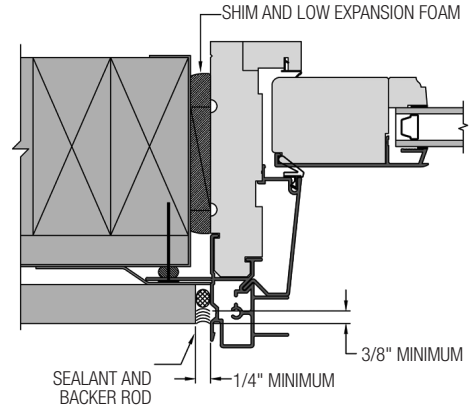
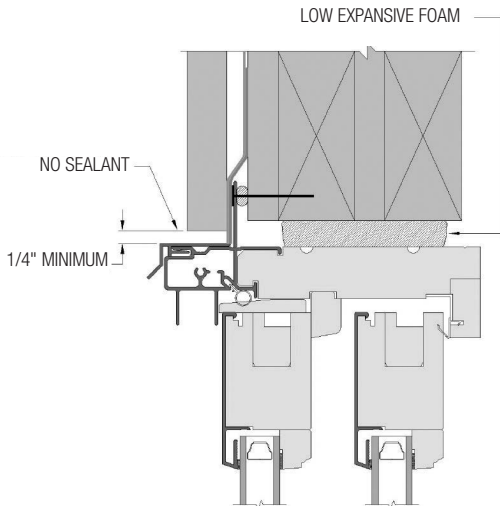

FIG. 23: SIDE JAMB
FIG. 24: SLIDING HEAD JAMB
- A) After siding or wall exterior is complete, apply backer rod and sealant between the door frame and siding material on both sides. Sealant bead must extend to back of accessory groove (3/8" Min.) (Fig. 23) **Do not add sealant at the head.** (Fig. 24 & 25)
- D) Insulate between the door frame and the rough opening using minimally expanding window and door spray foam insulation. Use caution to not overfill the gap, causing the jambs to bow. It is not recommended to apply trim to the unit until the foam has cured to allow the excess to escape. (Fig. 23, 24 & 25)